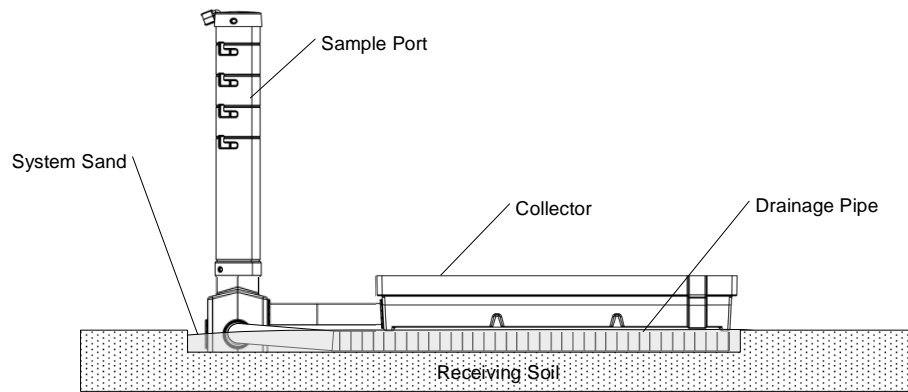

Figure 49
- Complete the installation of the collector as shown in Figure 49.